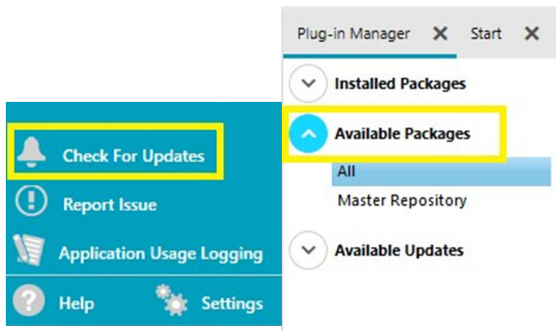

Figure 22. Plugin Manager Option in the ACE Sidebar
- Run the **ACE** software. Select **Plugin Manager** from the ACE sidebar to install the board plugin that supports the product evaluation board, and select **Available Packages**, as shown in Figure 22. You can use the search field to help filter the list of boards to find the relevant one. An ACE quick start guide is available here at ACE Quickstart - Using ACE and Installing Plugins.